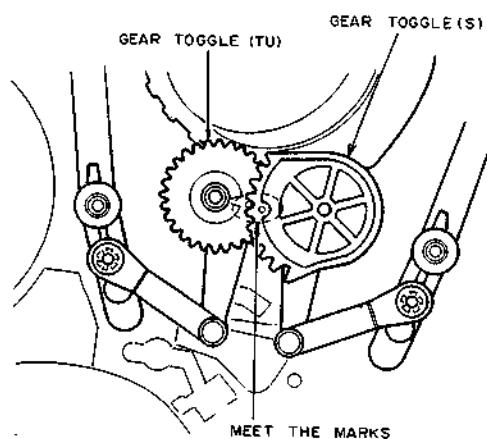

Fig. 4-12
- 8) Set the GEAR TOGGLE (TU) and (S) to the unloaded position with your fingers. At this time meet the marks of the GEAR TOGGLE (TU) and (S) as shown in Fig. 4-12.